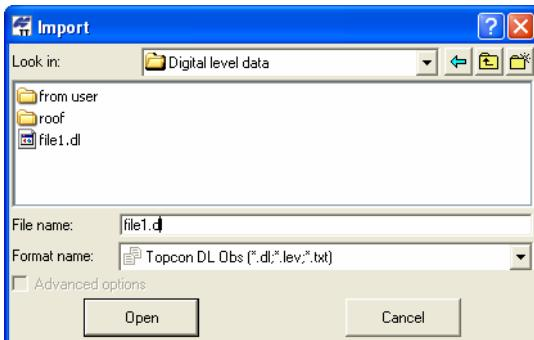

Figure 3-13. Import DL Obs File
4. Click **Open** to import the file (Figure 3-13 on page 3-14).